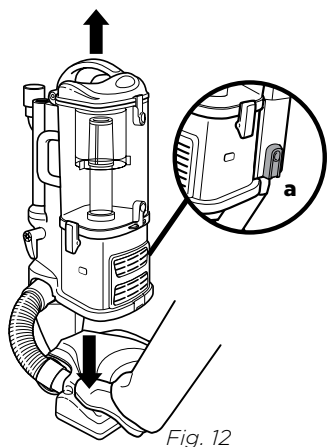

Fig. 12
- 1 To remove the canister from the floor nozzle, place your foot on the nozzle, press the red release button (a) on the side of the canister, then lift. (Fig. 12)